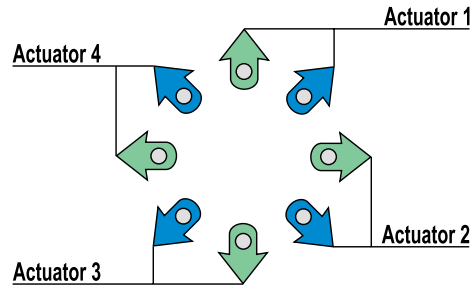

Figure 3. Actuator Selections
2. There are four Seat Positioning Actuators represented by two each of the Directional LEDs. For example, Actuator 1 is represented by the Forward and the Forward Right Directional LEDs. See figure 3. To extend Actuator 1, wait until the Forward LED is lit, then press and hold down the Select Switch. To retract Actuator 1, wait until the Forward Right LED is lit, then press and hold down the Select Switch.